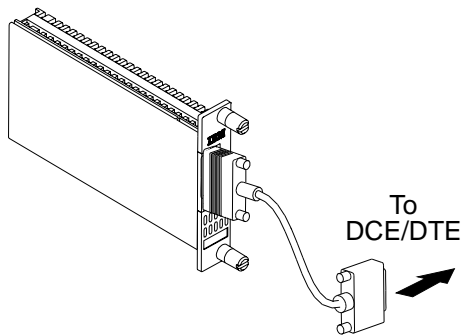
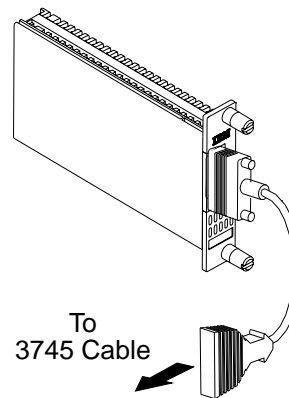

Figure 4-16. Cable Connector Type 3746-900
Figure 4-17. Cable Connector Type 3745
6. ____ Determine the cable connector type plugged on the ARCs (see Figure 4-16 and Figure 4-17).